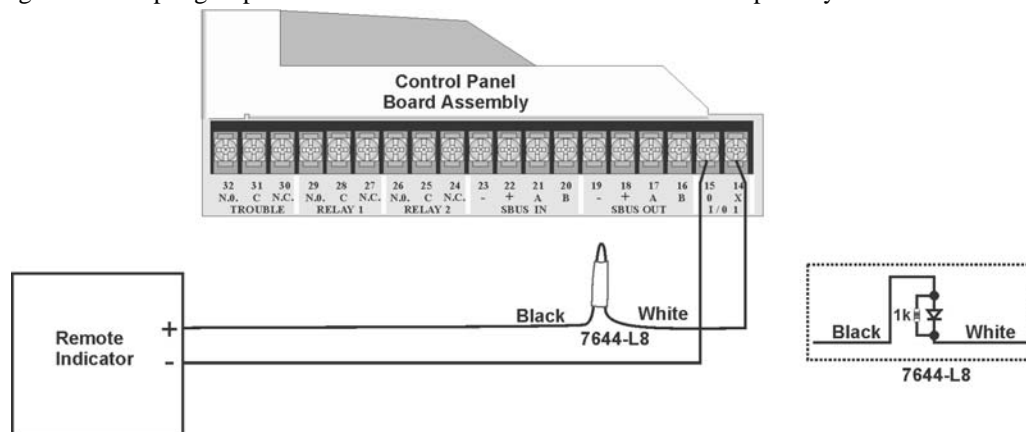

Figure 4-43 Polarity Reversal Connection Using the 7644-L8
- Wiring the 7644-L8 to the control panel as shown in Figure 4-43. Do not install an EOL resistor on the terminals of the Flexput circuit used.